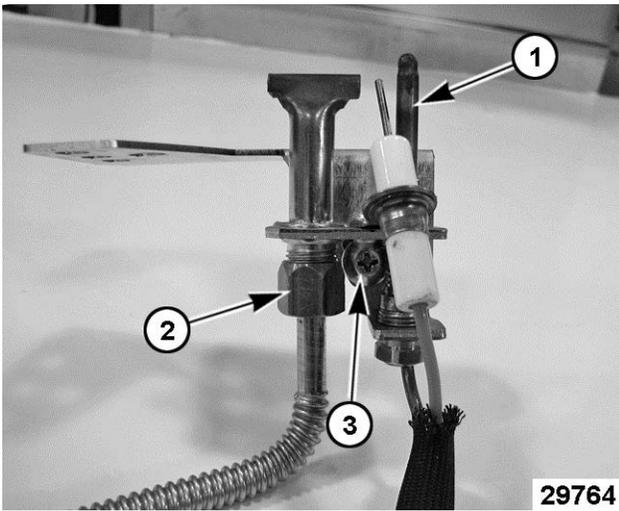

Fig. 103
9. If replacing thermocouple only, remove thermocouple (1, Fig. 103) from pilot assembly. Continue to last step.
10. If replacing pilot assembly, remove pilot flex (2, Fig. 103) tube and thermocouple (1, Fig. 103).
- A. Remove screw (3, Fig. 103) securing pilot assembly to mounting bracket.